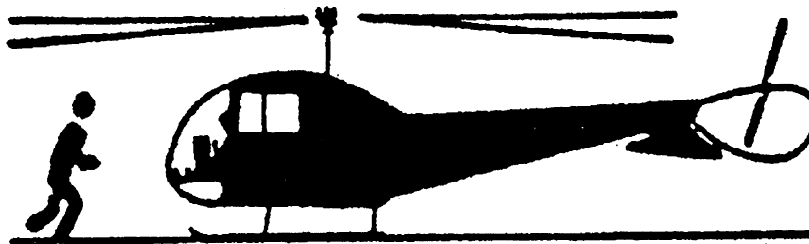

FIGURE 5. APPROACHING HELICOPTER
- (3) Approach the helicopter from the side or front, but never out of the pilot's line of vision. (See figure 5.)